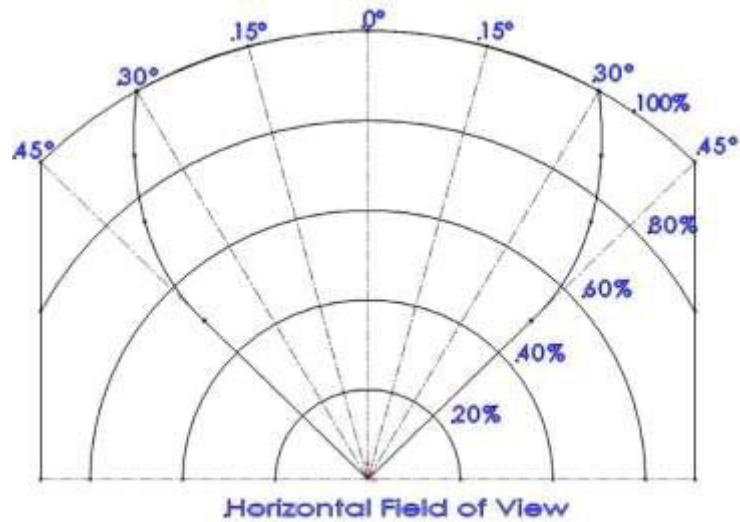
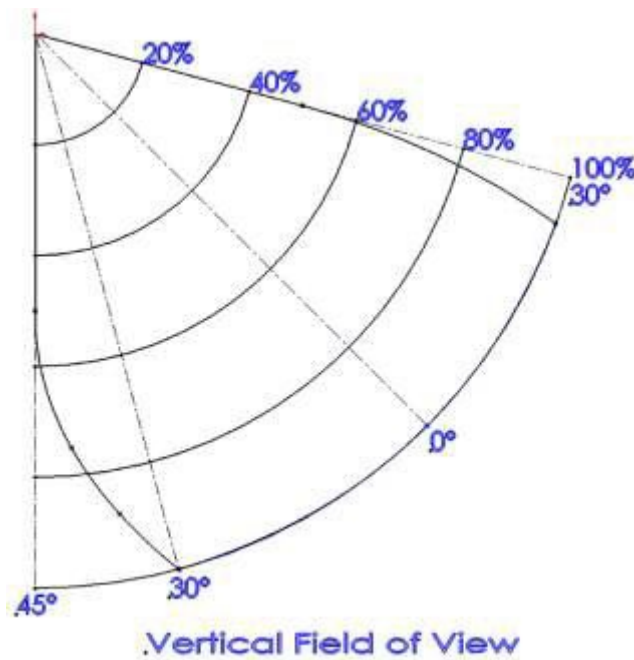

Figure 11 : - Horizontal field of view
Figure 12 : Vertical field of view
- The field of view of the detectors (See **Figure 11** and **Figure 12**)